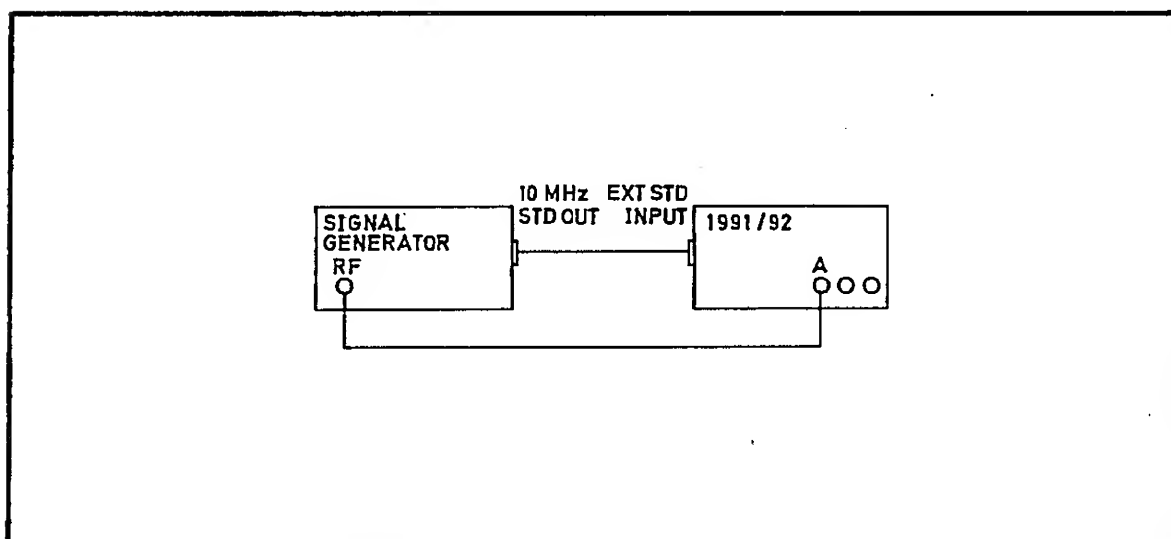

Fig 7.10 Connections for Channel A Input System Adjustment
- 30 (1) Switch the 1991/92 on. Select FREQ A.
- (2) Select $50\ \Omega$ impedance for channel A.
- (3) Press the RESOLUTION \downarrow key five times, until 000 is displayed.
- (4) Connect the test equipment as shown in Fig 7.10.
- (5) Set the signal generator output to 100 MHz at a level of 3.0 mV r.m.s.
- (6) Verify that the EXT STD indicator is lit, and that the channel A TRIG indicator is flashing.
- (7) Adjust R192 to obtain the most stable display indication of 100.0 ± 0.1 , with the GATE indicator flashing.